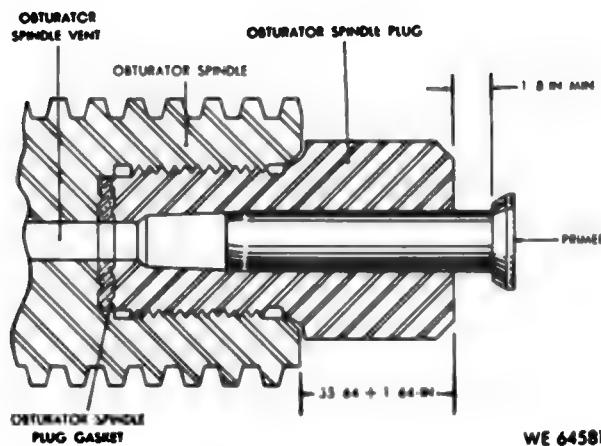

Figure 120. Checking primer seat in obturator spindle plug.
(2) If the gas-check pad, gas-check pad disk, inner ring, front or rear split rings, or obturator spindle is damaged or worn so as to be unserviceable, replace the defective part, and assemble the parts (para 86h). A gas-check pad of the proper resiliency will yield slightly under heavy thumb pressure.
(3) When the obturator spindle is removed from the breechblock carrier (b1) above, check the obturator spindle plug for proper seating of the primer by inserting an unfired primer into the spindle plug (fig. 120) and pressing it in with thumb pressure. The flange of the primer should not be less than one-eighth inch from the rear face of the plug. If this distance is less than one-eighth inch, notify ordnance maintenance personnel.